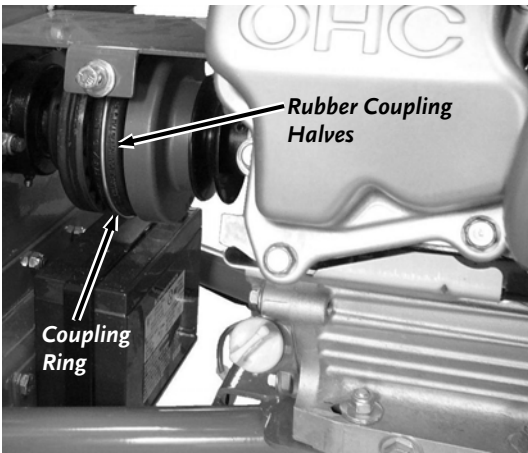

Figure 52
11. Pry the Ring into position onto the Rubber Coupling halves with a large Flat Head Screwdriver (**Figure 52**).